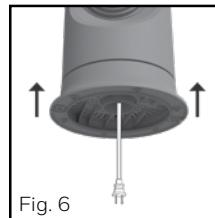

Fig. 6
- Lower the fan housing into the base (Fig. 6).